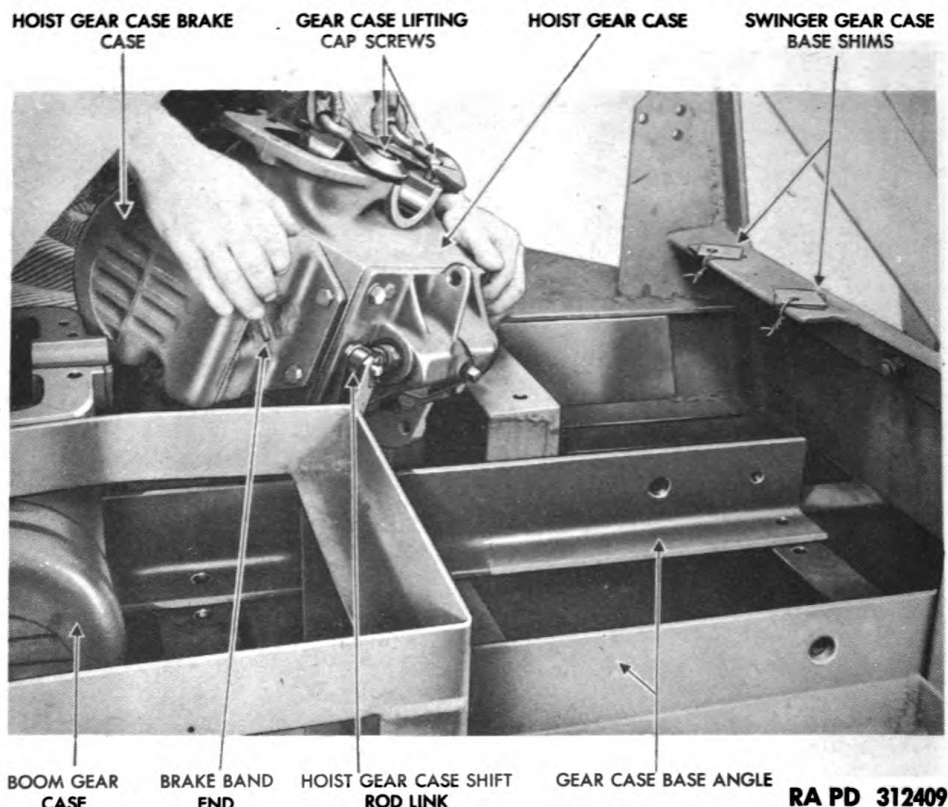

Figure 14 — Lifting Hoist Gear Case
g. Remove Hoist Gear Case Attaching Bolts. Remove four $\frac{5}{8}$ -inch bolts, nuts, and lock washers securing rear base angle to crane frame. Remove one $\frac{7}{8}$ -inch and one $\frac{1}{2}$ -inch bolt, nut, and lock washer from rear end of boom gear case. Remove one $\frac{7}{8}$ -inch and one $\frac{1}{2}$ -inch bolt, nut, and lock washer from rear end of hoist gear case. Slide gear case rear base angle to the rear as far as possible. Remove one $\frac{7}{8}$ -inch bolt, nut, and lock washer from front of hoist gear case and remove the nut and lock washer from the $\frac{1}{2}$ -inch bolt attaching the hoist gear case to the forward base angle (fig. 14).
h. Relocate Brake Band for Frame Clearance. Remove the brake band end lock and adjusting nuts, spring washer, and spring from the brake band end and pry the band back into the brake case for A-frame clearance (fig. 14).
i. Remove Gear Case. Install two $\frac{7}{16}$ -inch standard cap screws in gear case, hook onto case, and pry gear case forward off of the $\frac{1}{2}$ -inch gear case to base angle attaching bolt. Run the bridal chain through the opening in the top deck of the crane frame and raise the gear case by means of a chain hoist high enough to clear the boom pivot base angles. As the chain hoist is lowered, pull the gear case through the rear opening of the crane frame onto the boom pivot base plate (fig. 14).